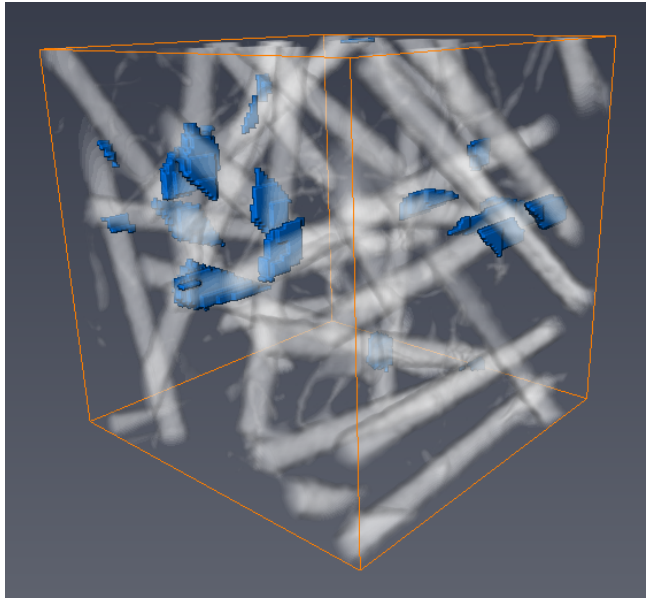

Figure 12.21: Identified Contact Points
10. Contact points are now identified. Attach the *voxelized rendering* module to *concrete.interfaces* (see Figure 12.21).